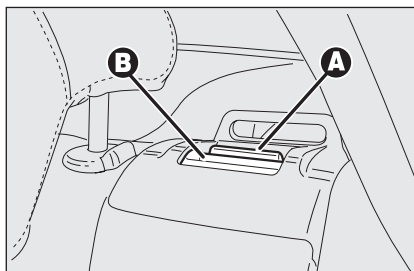
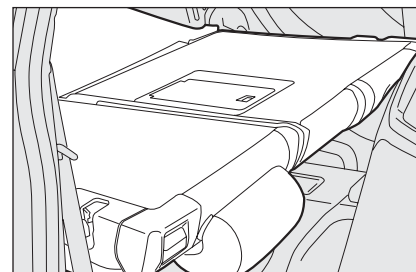

fig. 76
fig. 77
- ☐ raise backrest retaining levers **A-fig. 76** and tilt the backrests forward in order to obtain a single loading surface **fig. 77** (when raising lever **A** the "red band" **B** will appear).
- ☐ raise backrest retaining lever **A**-**fig. 76** and tilt the backrest forward (when raising lever **A** the “red band” **B** will appear).
Make sure the backrest is properly secured at both sides (“red bands” B-fig. 76 not visible) to prevent it moves forward in the event of sharp braking causing injuries to passengers.